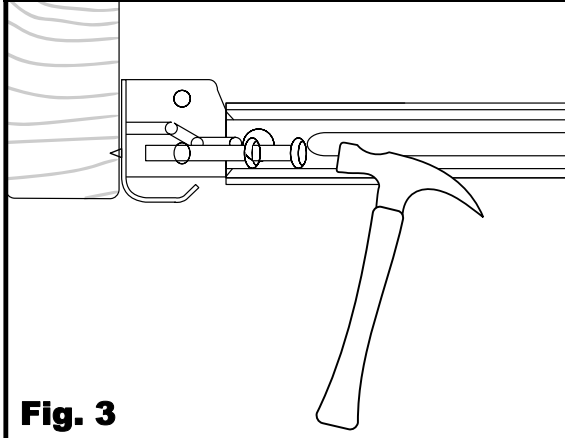

Fig. 3
3. Nail the hanger bars to the joists. [Fig. 3]